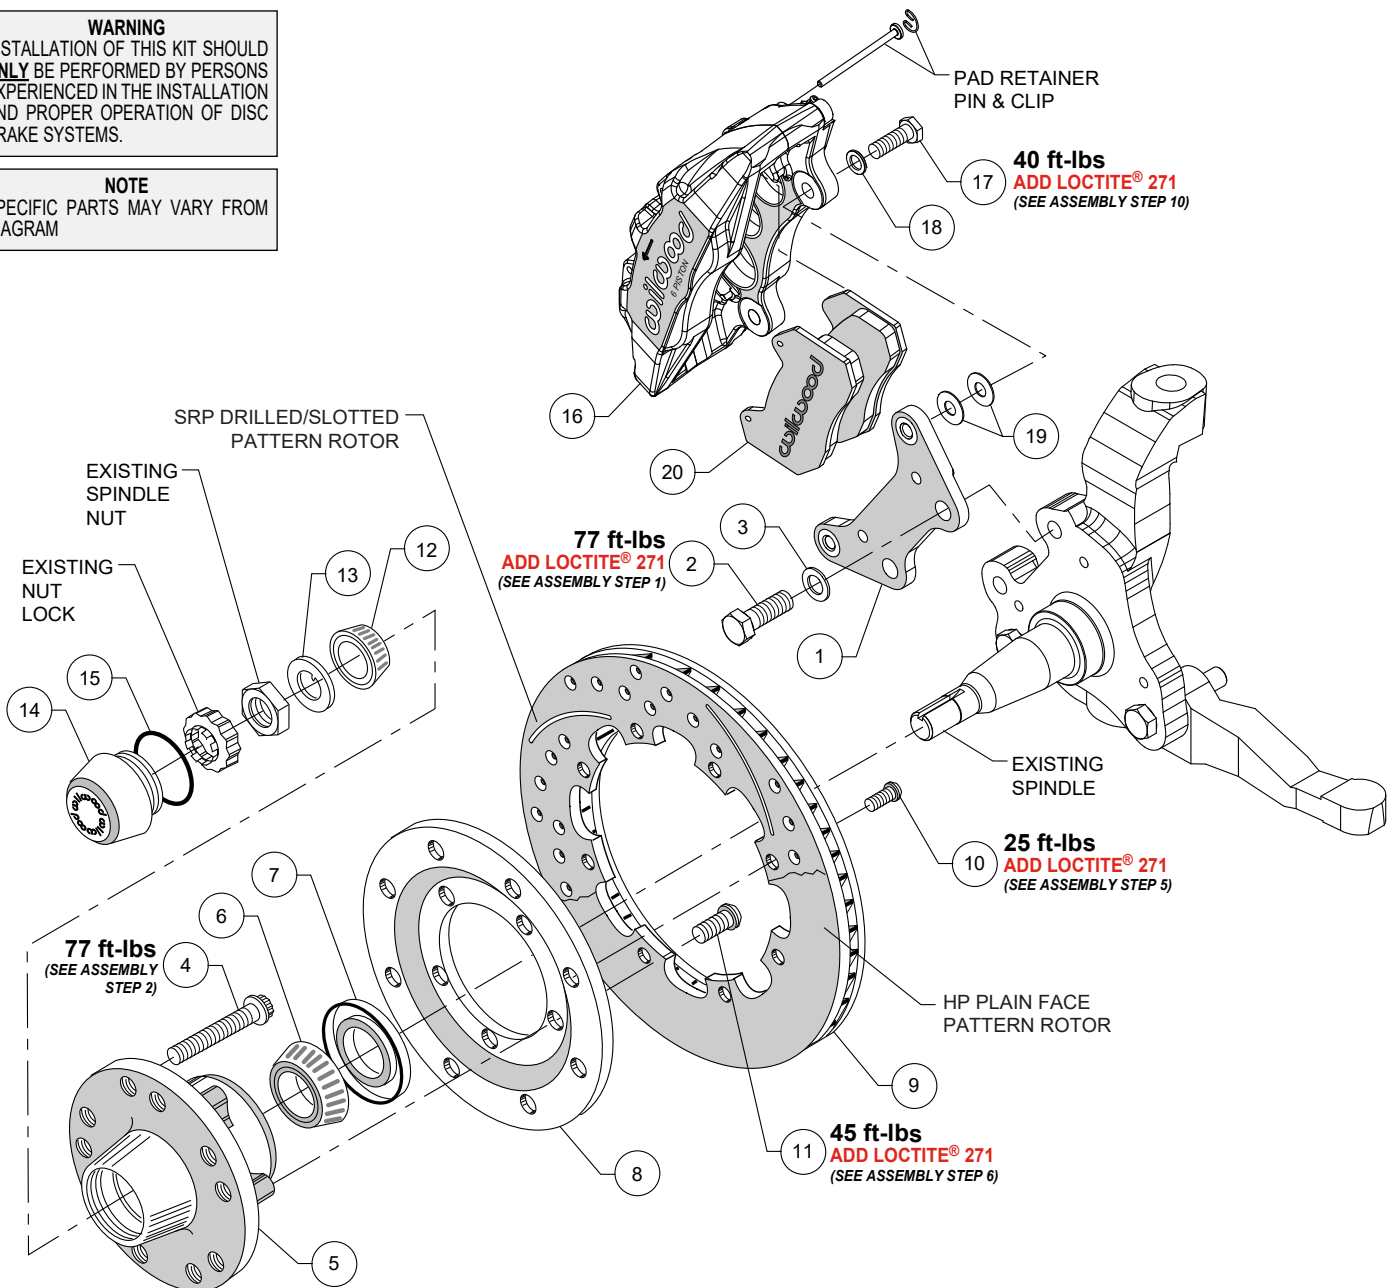
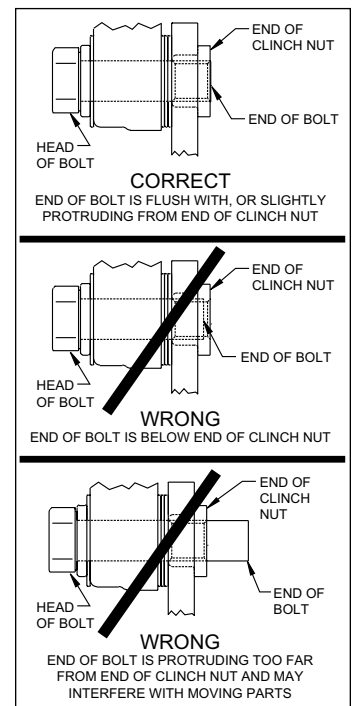

Figure 1. Typical Installation Configuration
Figure 3. Clinch Nut Engagement Diagram
**NOTE:** Numbers in parenthesis refer to the parts list and Figure 1 on the preceding pages.
**CAUTION:** All mounting bolts must fully engage clinch nuts. Be sure to check that all bolts are either flush or protruding through flanged side of clinch nut after shimming, Figure 3.
**STEP 1** The caliper mount bracket (1) should initially be installed with clean, dry threads on the mounting bolts. Orient the bracket, as shown in Figure 1 and Photo 1, and install using bolts (2) and washers (3). Temporarily tighten the mounting bolts. Ensure that the flanged heads of the clinch nuts in the bracket are facing outboard, Photo 1. **NOTE:** The bracket must fit squarely against the mount bosses on the upright. Inspect for interference from casting irregularities, machining ridges, burrs, etc. Remove bolts one at a time, apply red *Loctite*® 271 to threads and torque to value shown in Figure 1.
**STEP 2** Install wheel studs (4) into the hub (5), Photo 2. Torque to value shown in Figure 1. **NOTE:** There are two five lug patterns in the hub (5 x 4.50 and 5 x 4.75). Ensure the correct hub stud pattern is being used to fit the wheel application.
**STEP 3** Pack the large inner bearing cone (6) with high temperature disc brake bearing grease (available from your local auto parts store) and install into the backside of the hub (5), Photo 3.
**STEP 4** Install the grease seal (7) by pressing into the backside of the hub (5), flush with the end of the hub, Photo 3.
**STEP 5** Orient the rotor (9) and the rotor adapter (8) as shown in Figure 1 and Photo 4. Attach rotor to the adapter using bolts (10). Apply red *Loctite*® 271 to the bolt threads and torque to value shown in Figure 1 using a criss-cross pattern.
**STEP 6** Mount the adapter/rotor assembly (8 and 9) to the hub (5) using bolts (11), as shown in Figure 1 and Photo 5. Apply red *Loctite*® 271 to the bolt threads and torque to value shown in Figure 1 using a criss-cross pattern.
**STEP 7** Pack the small outer bearing cone (12) with high temperature disc brake bearing grease and install into hub (5). Slide the hub/rotor assembly onto the spindle. Secure using spindle washer (13) and OEM spindle nut, Photo 6. Adjust bearings per OEM specifications. Install saved OEM nut lock (if any) and a new cotter pin (not supplied).
**STEP 8** Screw dust cap (14) into hub (5), Photo 7. Friction created by the o-ring (15) on the dust cap keeps it from unscrewing. **NOTE:** The O.D. of the existing OEM spindle washer may be larger than the I.D. of the dust cap not allowing it to seat against the hub face. Therefore, use the spindle washer (13) supplied with the kit instead of the OEM washer.
**STEP 9** **NOTE:** Please reference the caution statement at the beginning of the assembly instructions. This kit contains distinct right and left hand calipers that must be mounted in a specific direction, as described below. Mount the caliper (16) onto the caliper mounting bracket (1) using bolts (17) and washers (18), as shown in Figure 1. Initially place two .035" thick shims (19) on each bolt between the caliper and the bracket, Figure 1. Ensure that the caliper is mounted so the largest pistons are at the rotor exit end of the caliper, in relation to the direction of rotor rotation. Temporarily tighten the mounting bolts and view the rotor (9) through the top opening of the caliper. The rotor should be centered in the caliper, Photo 8. If not, adjust by adding or subtracting shims between the bracket and the caliper. Always use the same amount of shims on each of the two mounting bolts. **NOTE:** The end of each bolt must be flush with or slightly protruding from the head of the clinch nut, as shown in Figure 3. If necessary, place spare shims (19) between washer (18) and caliper mounting ear to achieve the proper clinch nut engagement. Once the caliper alignment and clinch nut engagement are correct, remove the caliper.
**STEP 10** Remove the two pad retaining pins from the caliper (16) by carefully popping out the pin retaining clips and sliding out the pad retainer pins. Insert the brake pads (20) into the caliper from the bottom, Figure 1 and Photo 9, with the friction material facing the rotor. Secure the brake pads in place with the pad retaining pins and clips, Photo 10. Reinstall the caliper onto the caliper mounting bracket. Apply red *Loctite*® 271 to bolt threads (17), and torque to value shown in Figure 1.